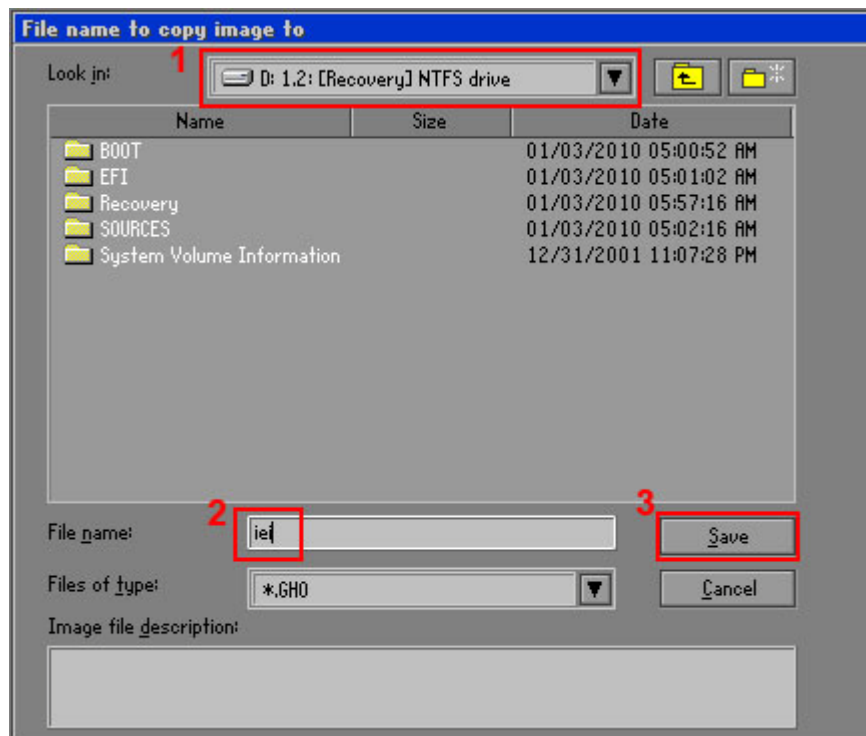

Figure C-16: File Name to Copy Image to
Step 7: Select **1.2: [Recovery] NTFS drive** and enter a file name called **iei** (Figure C-16). Click **Save**. The factory default image will then be saved in the selected recovery drive and named IEI.GHO.